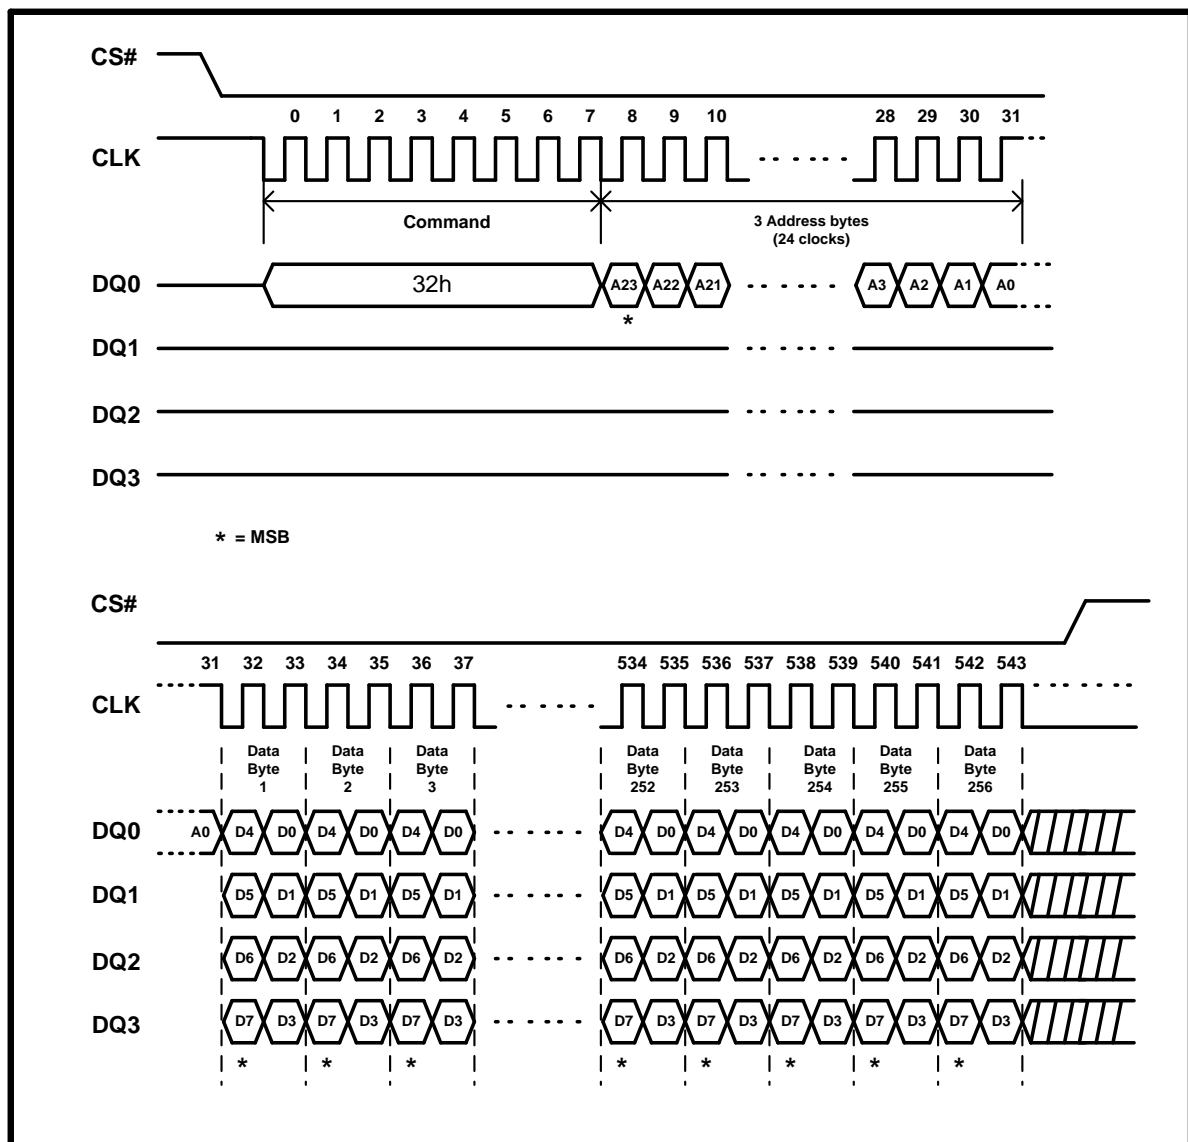

Figure 25. Quad Input Page Program Instruction Sequence Diagram (SPI Mode only)
To use Quad Page Program (QPP) the WP# and HOLD#/RESET# Disable (QE) bit in Status Register must be set to 1. A Write Enable instruction must be executed before the device will accept the Quad Page Program (QPP) instruction (SR.1, WEL=1). The instruction is initiated by driving the CS# pin low then shifting the instruction code “32h” followed by a 24-bit address (A23-A0) and at least one data byte, into the IO pins. The CS# pin must be held low for the entire length of the instruction while data is being sent to the device. All other functions of Quad Page Program (QPP) are identical to standard Page Program. The Quad Page Program (QPP) instruction sequence is shown in Figure 25.